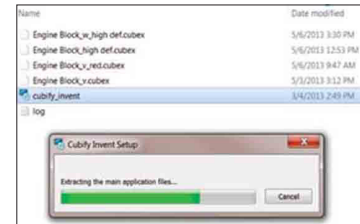

Fig. 47
1. Plug the USB provided with your CubeX into your computer and click on “Cubify\_Invent.exe” to download the software to your computer. (Fig. 47)